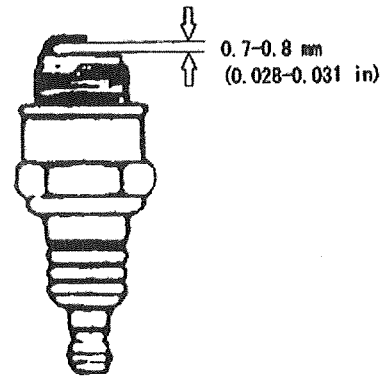

Figure 21- Measuring the spark plug gap
4. Measure the plug gap with a gauge (see figure 21). The gap should be 0.7-0.8 nun (0.028-0.031 in).